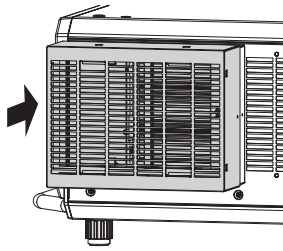

Fig. 1
- 1) **Attach the long life filter cover to the long life filter mount clasp. (Fig. 1)**